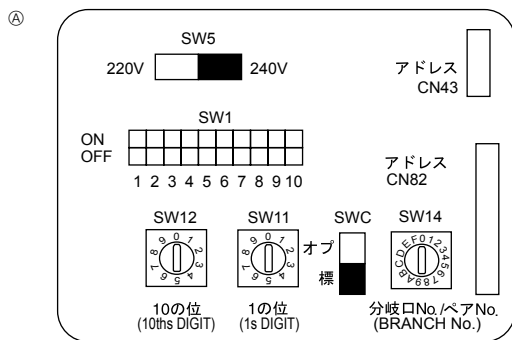

Fig. 7-4
7.5. Setting addresses (Fig. 7-4)
④ Address board
7.6. Sensing room temperature with the built-in sensor in a remote controller (Fig. 7-4)